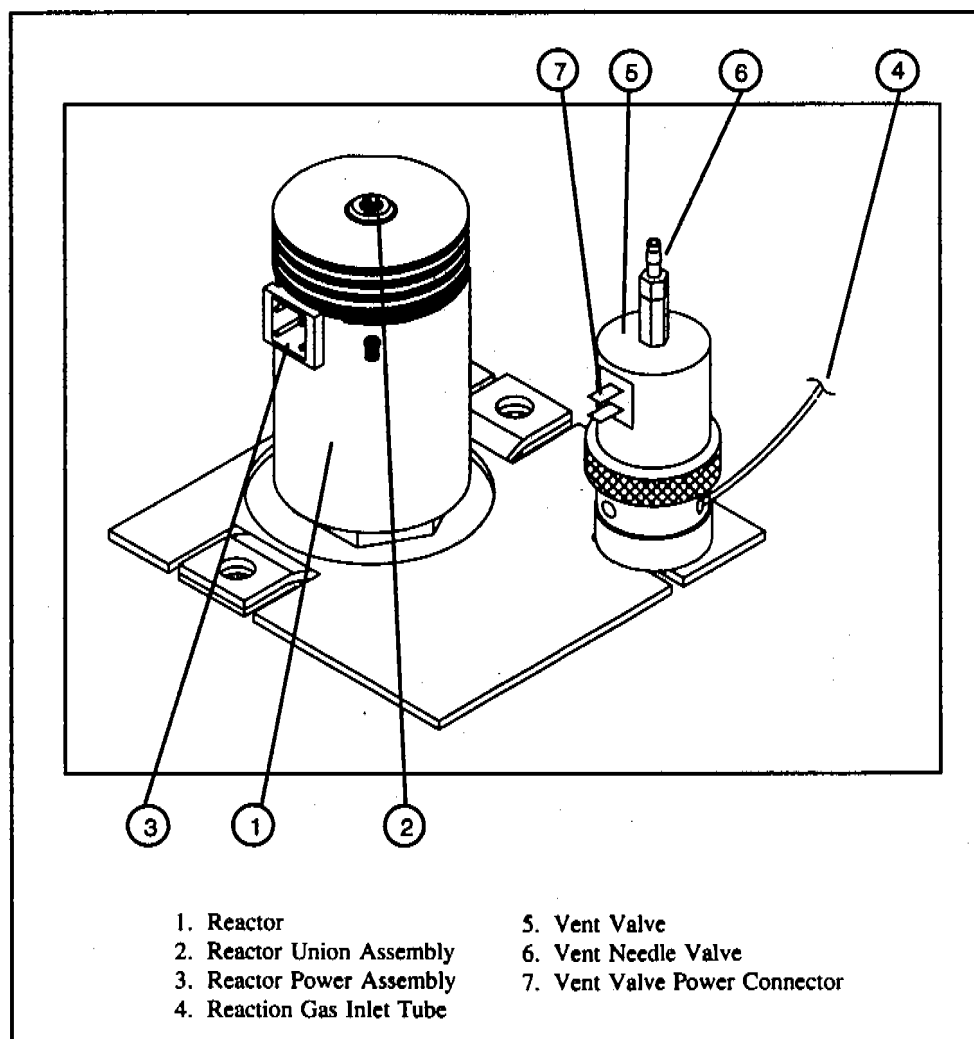

Figure 2.5. Reactor Assembly
- Attach Reactor Power Assembly Connector (Part #231365) to Reactor as in Fig. 2.5.
- Attach Grounding Cable from Assembly to top of GC with supplied screw. (see Fig. 2.5).